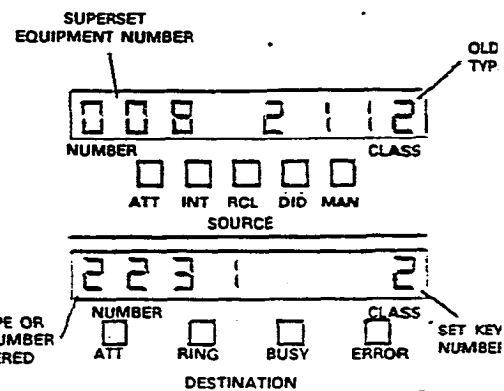

Figure 271-1 Typical Type
* Dial type (Note 1) (Figure 271-1) (Table 271-1) (Note 2)
* Dial 1- to 4-digit directory number (Figure 271-1)